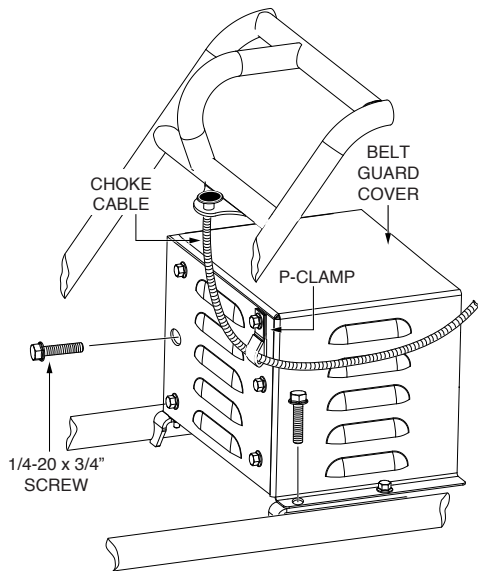

Figure 5. Clutch Cover Removal
1. Remove the P-clamp (Figure 5) securing the choke cable to the belt guard. Set the P-clamp aside in a safe place and move the choke cable out of the way
2. Using a 7/16" wrench, remove the 1/4-20 x 3/4" retaining screws (10) securing the belt guard panels. Set the panels and retaining screws aside in a clean safe place. Figure 5.